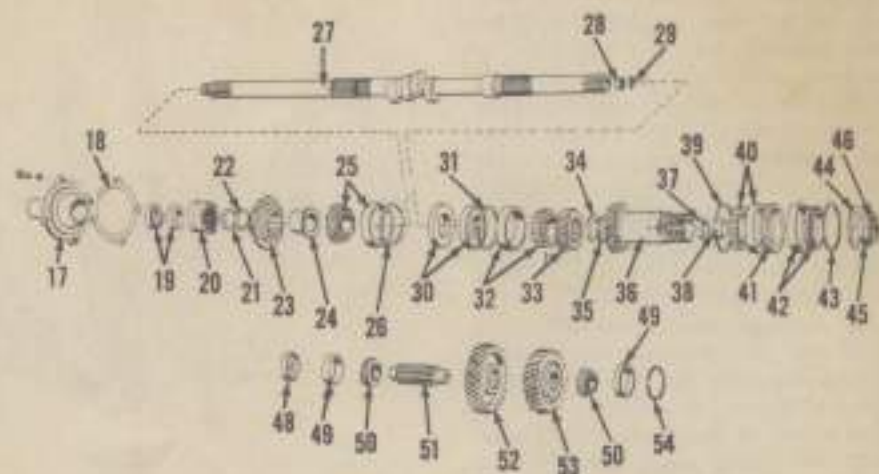

Fig. 107 — Exploded view of the clutch shaft and intermediate shaft and gears used on D-17 models prior to tractor Serial No. D17-24001.
shown in Fig. 106, screw tool onto outer shaft (36—Fig. 107) and bump shaft, bearings (40 and 42) and spacer (41) out toward rear.
166. To remove the intermediate shaft and gears, it is first necessary to remove the PTO driven gear as outlined in paragraph 225, then remove snap ring (54—Fig. 107) at rear of intermediate shaft bore. Rear end of shaft has a threaded hole to facilitate removal. Screw slide hammer adapter into threaded hole in shaft and bump shaft out towards rear of torque housing. Rear bearing cone and cup will be pulled with intermediate shaft and gears and front bearing cone can be removed from bottom opening in housing. If necessary to renew front bearing cup, pull cup out to rear with slide hammer and bearing cup puller attachment.